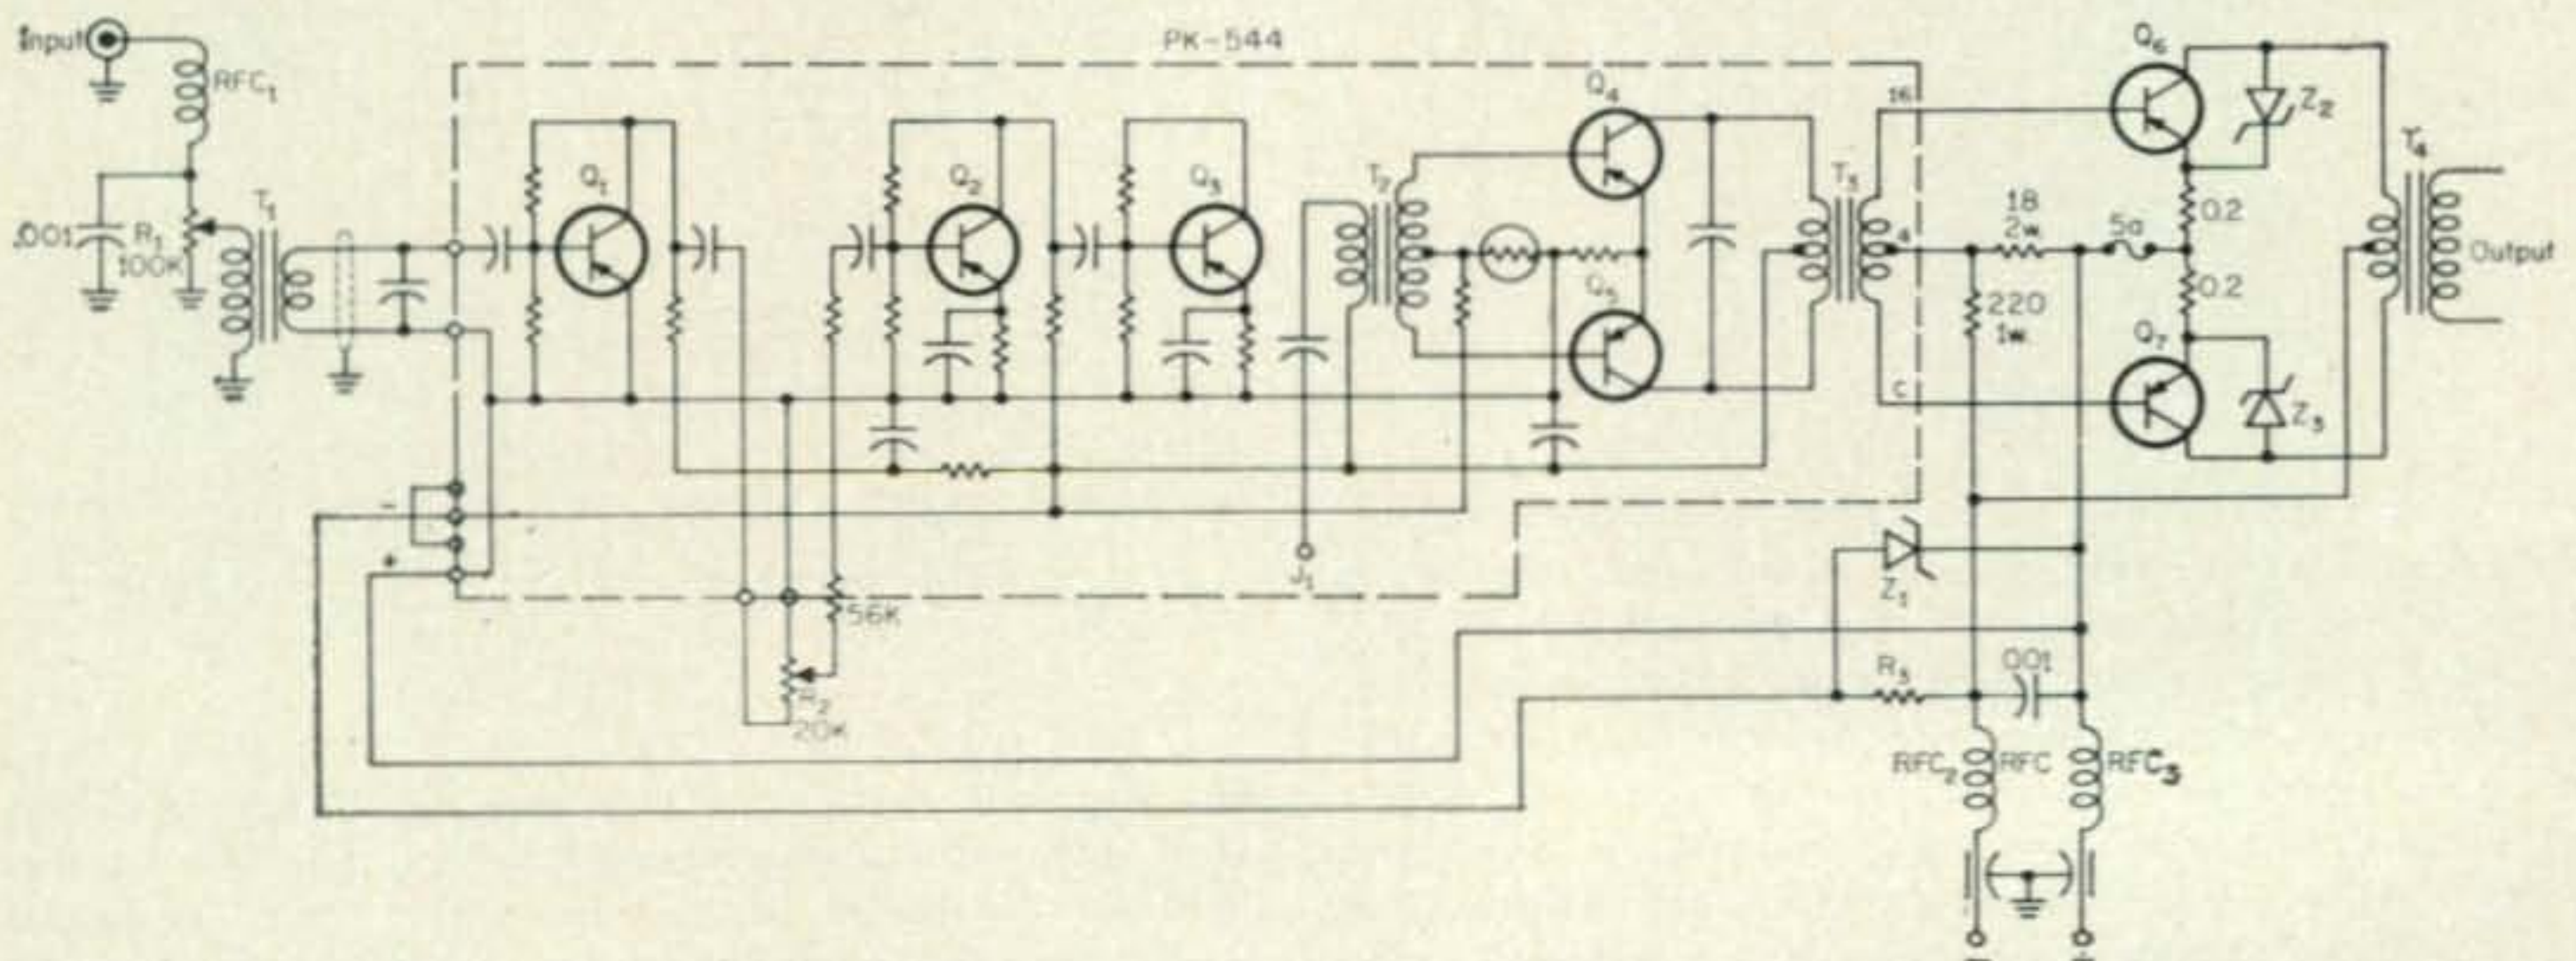
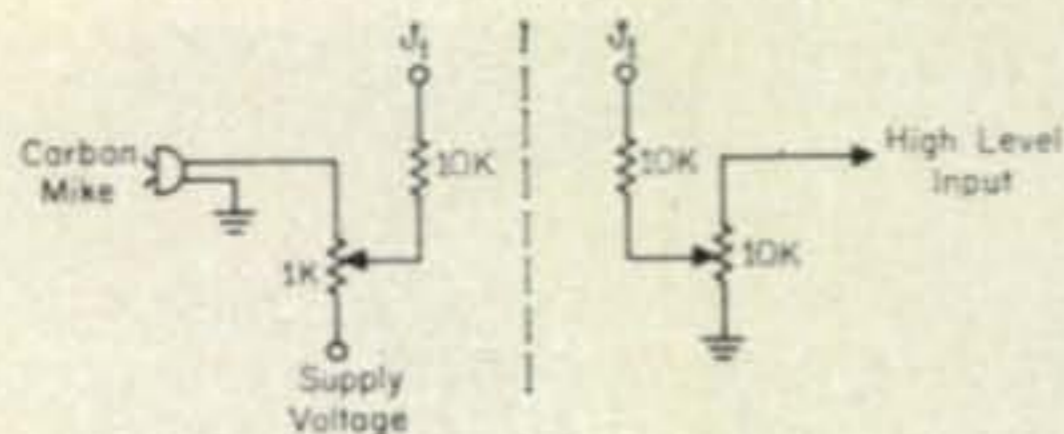

Fig. 1—Schematic of the modulator. Printed board PK-544 is an assembled unit and only  $T_3$  is changed. It is replaced with a Thordarson TR-113 or equivalent.
Fig. 2—Circuits for high level inputs.
Fig. 1—A simple half-wave coaxial balun provides a 4 to 1 impedance transformation and is extremely frequency-sensitive. Good balance may be achieved over only one amateur band.
Simple half-wave coaxial baluns have been used for years by radio amateurs to achieve a continuous junction between unbalanced and balanced systems (fig. 1). These devices may be made of a length of coaxial line and are cheap and easy to build. They are, however, decidedly frequency-sensitive and the balun length becomes quite critical at 50 mc and above. Worst of all, for the amateur wishing to match a low impedance coaxial line to a typical beam antenna (having a *lower* value of impedance than the line) the half-wave balun provides exactly the *opposite* impedance transformation. It is a step-up device rather than a step-down device. In this instance, the perfect balun would provide a balancing action with a step-down impedance ratio that would match a 50 ohm coaxial line to the driven element of a Yagi antenna which is in the neighborhood of 20 ohms or so.
Fig. 2—The 4 to 1 balun coil may be visualized as a form of TV "ladder transformer" (A), or as an audio inductor (B) with the input fed to one-half the winding. Balanced output is taken across the complete winding. An equivalent r.f. transformer makes use of a section of coaxial cable (C) which is equivalent to a coaxial winding. The coaxial cable is approximately an electrical quarter wavelength at the center frequency of the balun.
Operation of the broad-band coaxial balun may be seen from the analogy shown in fig. 2. This is the sketch of a simple 4:1 coaxial balun. (A). It is also known as a ladder transformer in TV lingo. This balun may be compared to a push-pull audio inductor, with the exciting voltage fed to one-half of the winding and the output voltage taken across the complete winding. If both windings have an equal number of turns, the output voltage will be twice the input voltage and will be balanced with respect to ground. As the ratio of the output and input impedances of
Transformer  $T_1$  (fig. 1) matches the high impedance input to the preamp input which is about 5000 ohms. It also allows us to change from positive to negative ground without complications. Transistors  $Q_1$ ,  $Q_2$  and  $Q_3$  make up the preamp. A 20K pot,  $R_2$ , is inserted between  $Q_1$  and  $Q_2$  to adjust the maximum range over which  $R_1$  has control. Terminal  $J_1$  provides a high level input for a carbon mike, etc. as shown in fig. 2. Transistors  $Q_4$  and  $Q_5$  are the drivers and are operated in Class B for maximum efficiency. A thermistor is provided to prevent runaway when operating in high ambient temperatures. The output transistors,  $Q_6$  and  $Q_7$ , are